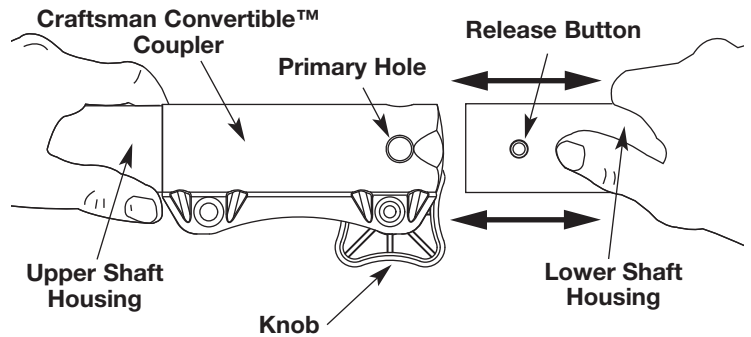

Fig. 2
3. While firmly holding the attachment, push it straight into the coupler until the release button snaps firmly into the primary hole (Fig. 2).
CAUTION: Lock the release button in the primary hole (Fig. 2) and securely tighten the knob before operating this unit.
2. Press and hold the release button (Fig. 2).
3. While firmly holding the upper shaft housing, pull the hedge trimmer attachment out of the coupler (Fig. 2).